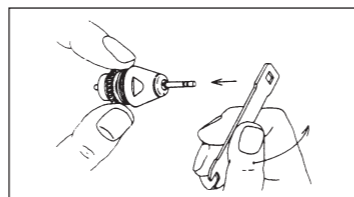

Fig. 11
- ① Remove the cartridge with a bur or dummy bur installed. (9. REPLACEMENT OF CARTRIDGE)
- ② Hold the rotor with two fingers as shown on the Fig.11. Mount the wrench provided on the rotor nut located on the top of rotor shaft and turn counterclockwise (Either side of wrench can be used).